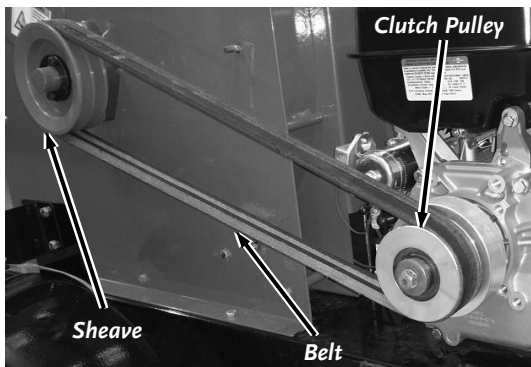

Figure 44
6. Remove the Belt (one Belt for Pro-475 or two for Pro XL-575) from the Clutch and Sheave (**Figure 44**).
2. Adjust the Belt Tensioner until the Belt is not sagging but not too tight (**Figure 44**).